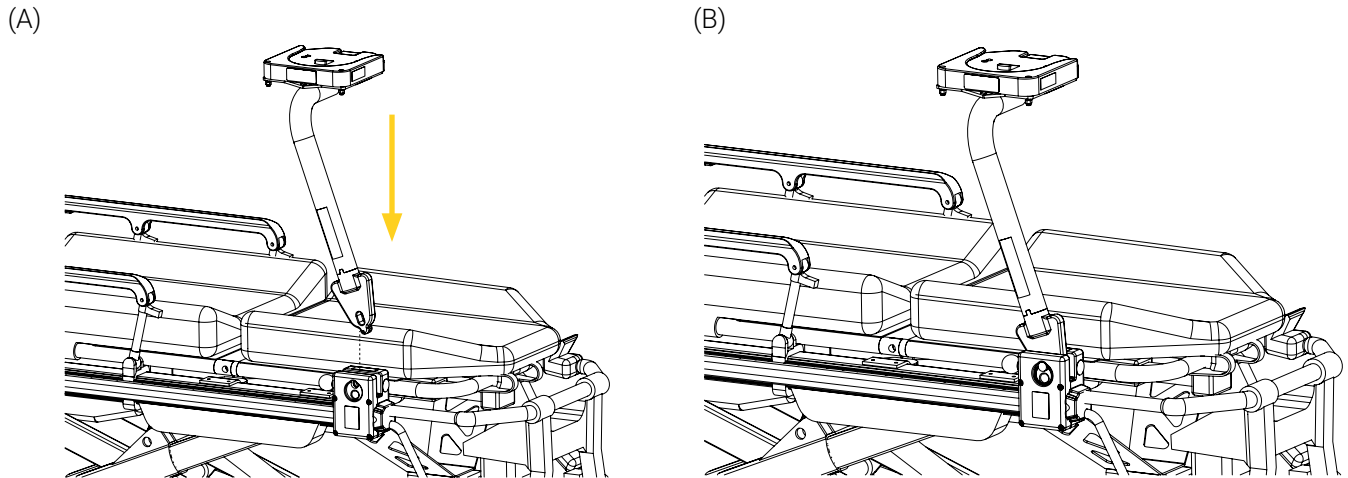

Figure 25: Installing the SAS 500 in the clamp block
1. Install the SAS 500 in the clamp block (Figure 25). Refer to the « Install the SAS 500 in the Clamp Block » section on page 20 if needed.